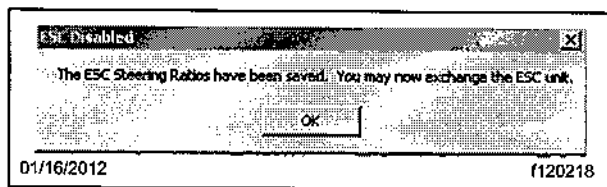

Fig. 7, ESC Steering Ratios Saved
- 7.1 If "The ESC Steering Ratios have been saved. You may now exchange ESC unit" is returned, click OK and continue. See Fig. 7.